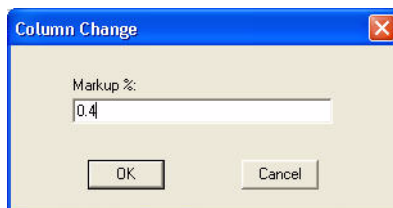

Figure 5-17 The Column Change dialog box.
8. Enter **0.40** in the **Markup %** box, as in Figure 5-17, and click **OK**.